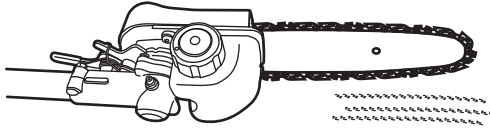

Fig. 8c
2. Start the engine; keep it running at medium power and check if the chain oil is delivered as shown in the figure. (See Fig. 8c)